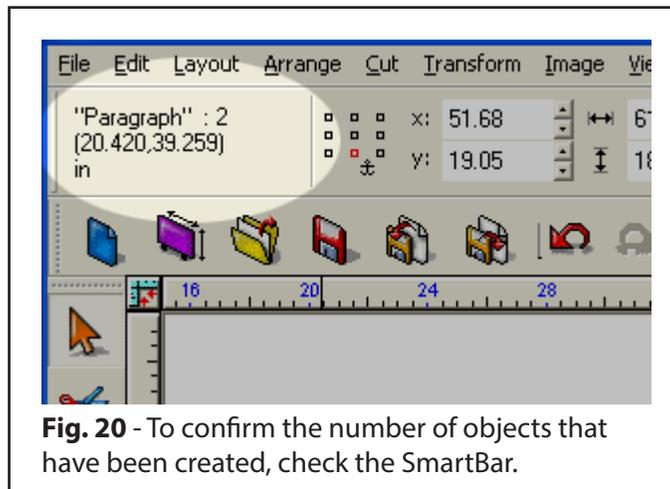

Fig. 20 - To confirm the number of objects that have been created, check the SmartBar.
2. Now there should be two paragraphs that are selected, instead of one. This information is visible in the SmartBar at the far-left of the workspace (Fig. 20).